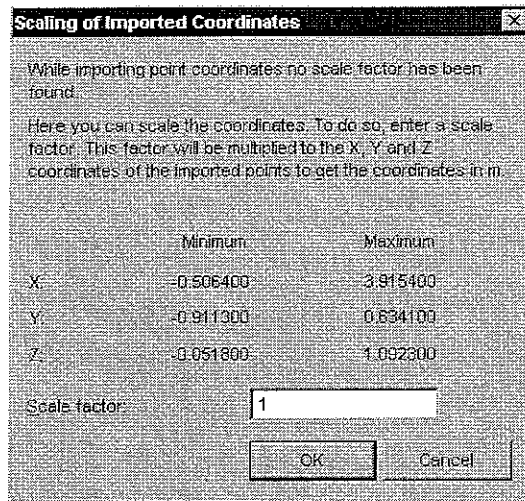

Figure 5.4: Dialog Scaling of Imported Coordinates
- ☞ If you are importing geometry from a file in Universal File format which does not contain data set 164 with the units of the coordinates, you have to enter a scaling factor in the dialog Scaling of Imported Coordinates, refer to figure 5.4. The factor 1 stands for the unit m, the factor 0.01 for the unit cm etc.